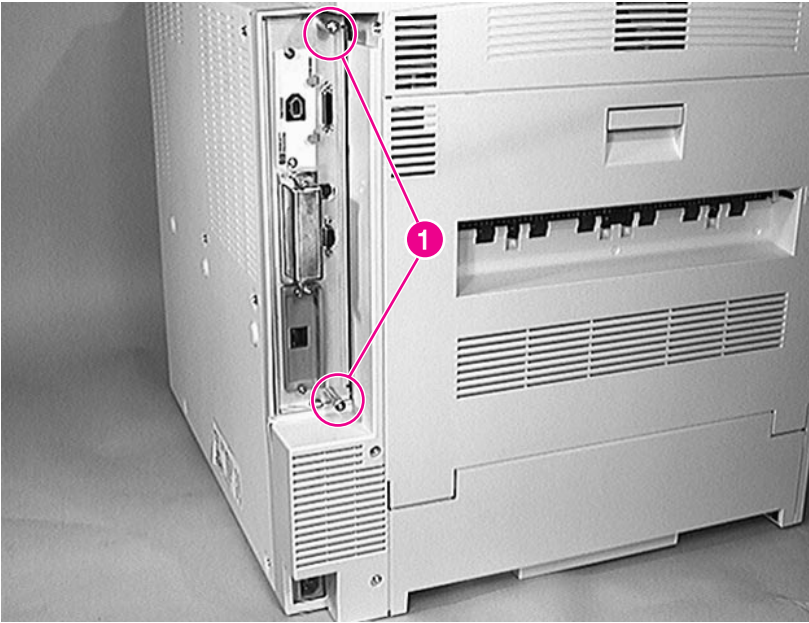

Figure 6-35 Formatter Assembly
- 2 Loosen the two captive screws (figure 6-35, callout 1), and slide the Formatter PCA out of the chassis.
- 1 Remove the Formatter Assembly (see figure 6-35 on page 251).
- Formatter Assembly (see figure 6-35 on page 251)